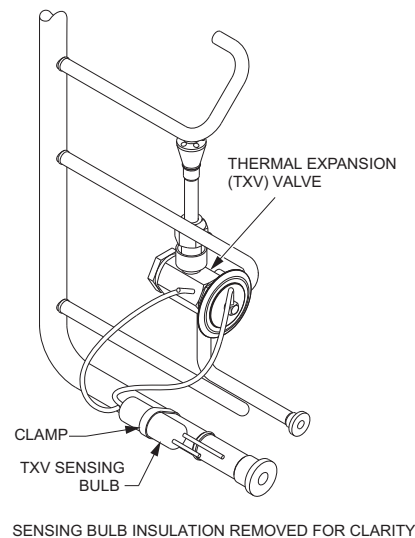

Fig. 19 — TXV Valve and Sensing Bulb Location
8. Attach TXV bulb in the same location where the original (in the sensing bulb indent) was when it was removed, using the supplied bulb clamps. See Fig. 19.